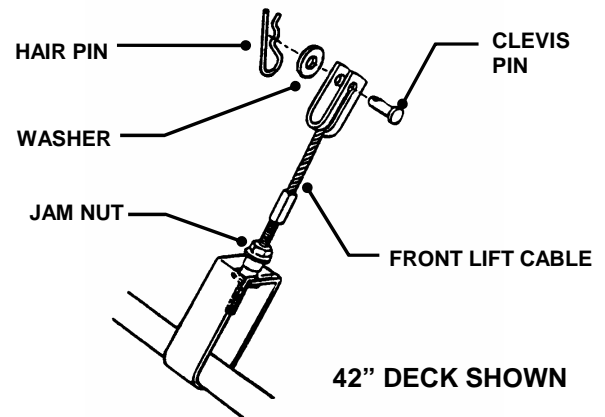

FIGURE 4.18
4. Remove hair pin and washer securing front lift cable to front lift arm. See Figure 4.18.